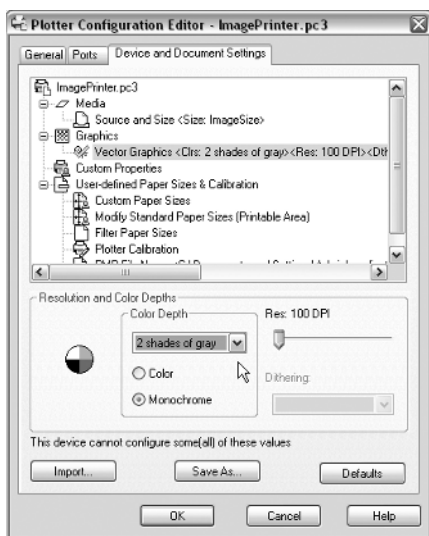

Figure 1.9 Limiting the color depth of the output
17. In the Color Depth group, click the Monochrome radio button, and then choose 2 Shades Of Gray from the Color Depth drop-down, as shown in Figure 1.9.